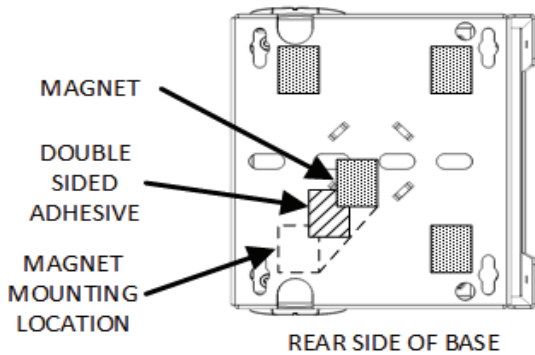

Figure 3
- 3) Attach the magnet assemblies to the locations as shown in Figure 3